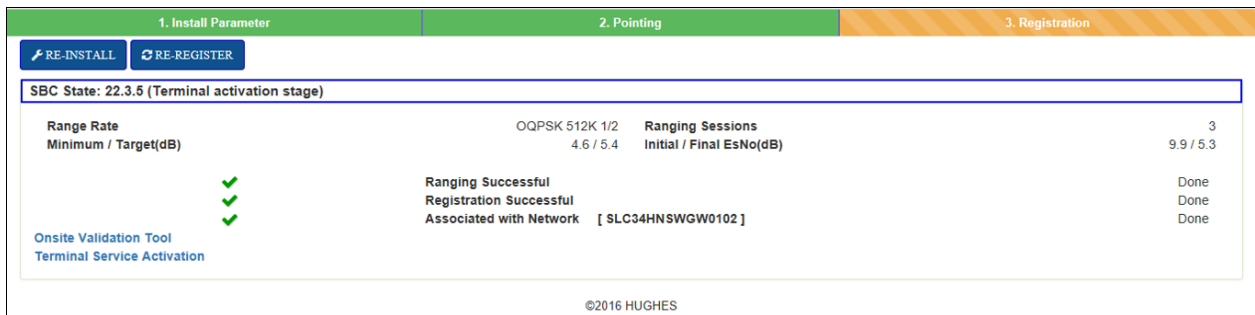

Figure 21: Registration and configuration processes
3. Click the Onsite Validation Tool link (OVT) as shown in Figure 21.